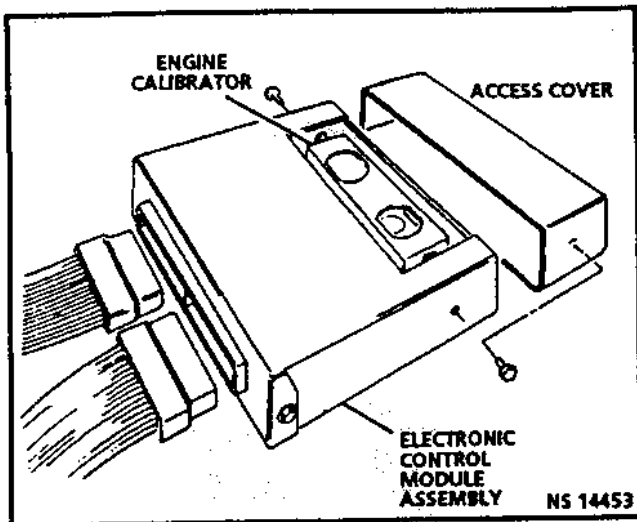

Figure 3.1-3 Electronic Control Module Engine Calibrator Access Cover
- Engine calibrator access cover. (See Figure 3.1-3.)
LOCATION: Under access cover of electronic control module. (Figure 3.1-3).